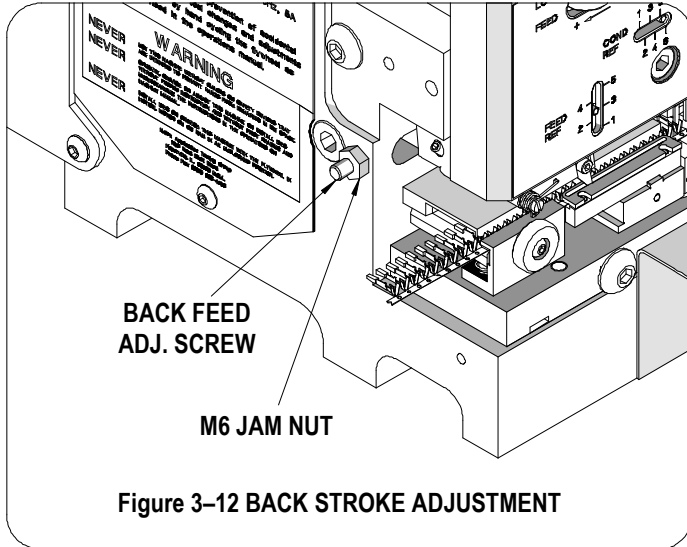

Figure 3-12 BACK STROKE ADJUSTMENT
3. With the press in the down position, loosen the M6 hex jam nut. See Figure 3-12.